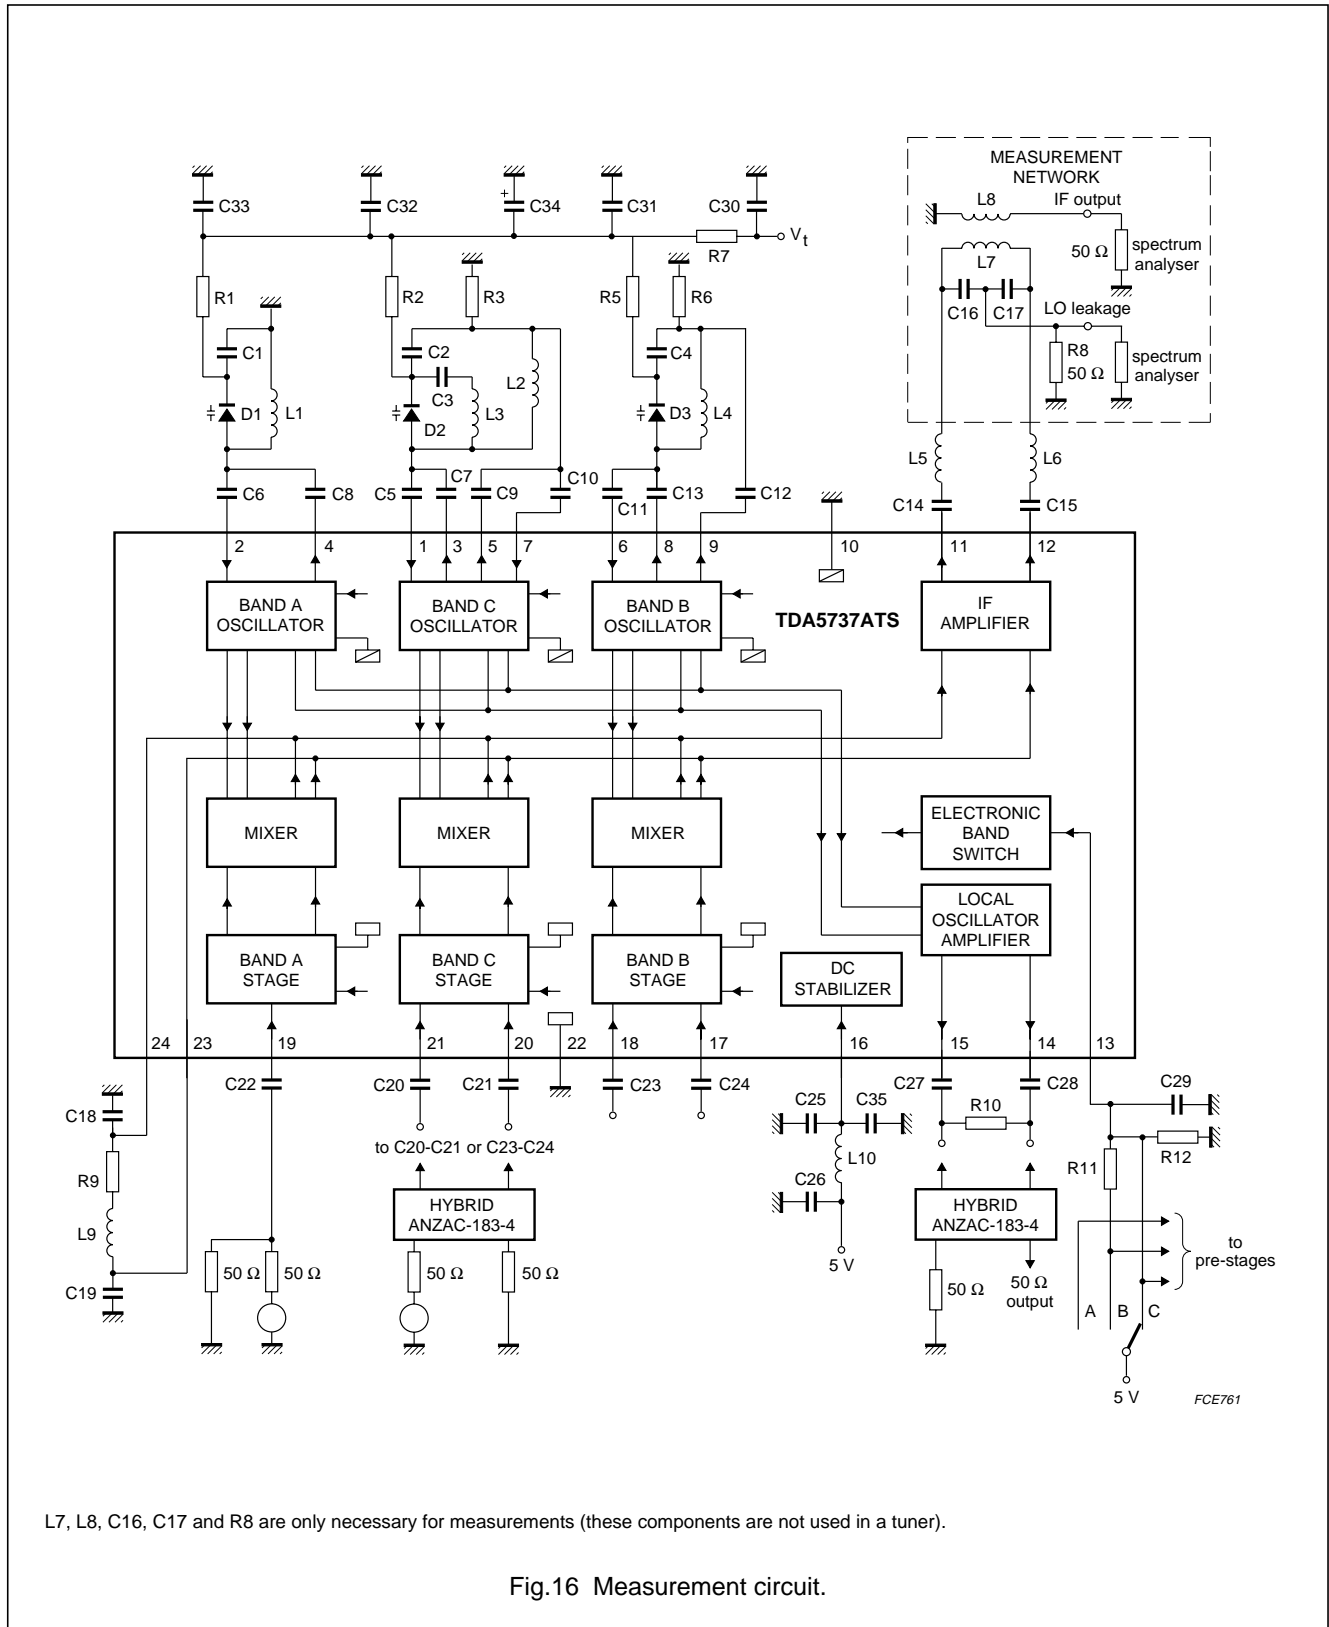

Fig.16 Measurement circuit.
3. The gain is defined as the transducer gain (measured in Fig.16) plus the voltage transformation ratio of L7 to L8 (10 : 2 and 15.4 dB including transformer loss).
5. Limits are related to the tank circuits used in Fig.16. Frequency bands may be adjusted by the choice of external components.
Table 1 Capacitors of Fig.16 (all SMD and NP0 except C34 and C35)
Table 2 Resistors of Fig.16 (all SMD)
Table 3 Diodes, coils and transformers of Fig.16